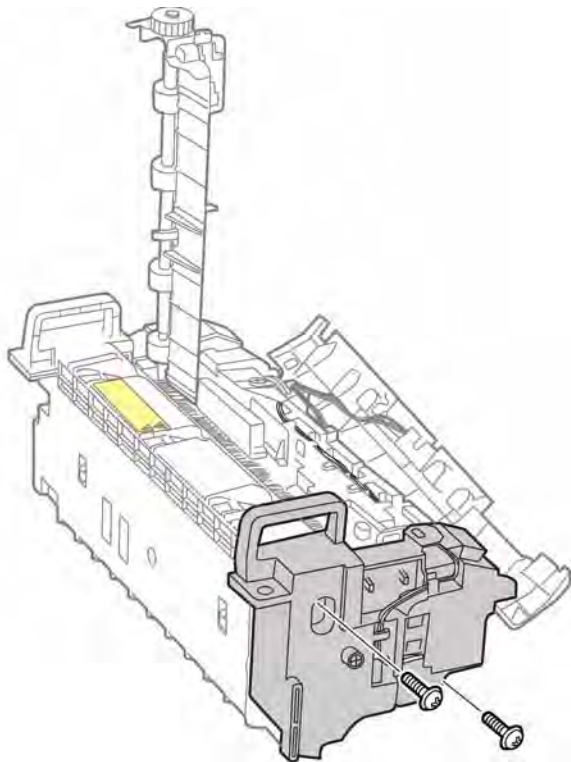

Figure 4 Remove the Fuser Right Cover
- Remove 2 screws (silver, metal) that secure the right cover, Figure 4.